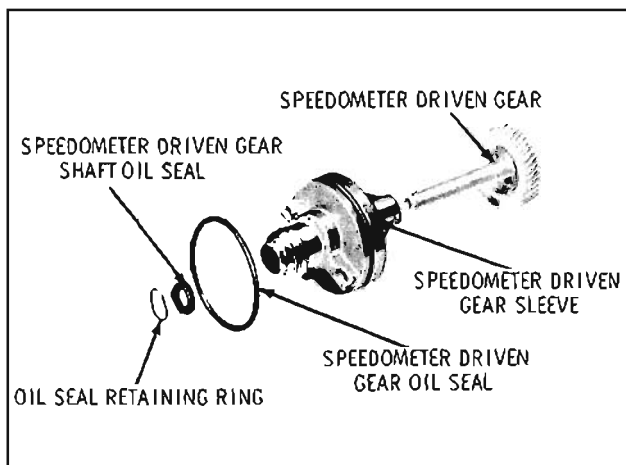

Fig. 6-371 Speedometer Driven Gear
1. Remove speedometer driven gear. (Fig. 6-371)
2. Examine speedometer driven gear oil seal. If nicked, torn or worn, remove seal. (Fig. 6-371)
2. Install speedometer driven gear oil seal. (Fig. 6-371)